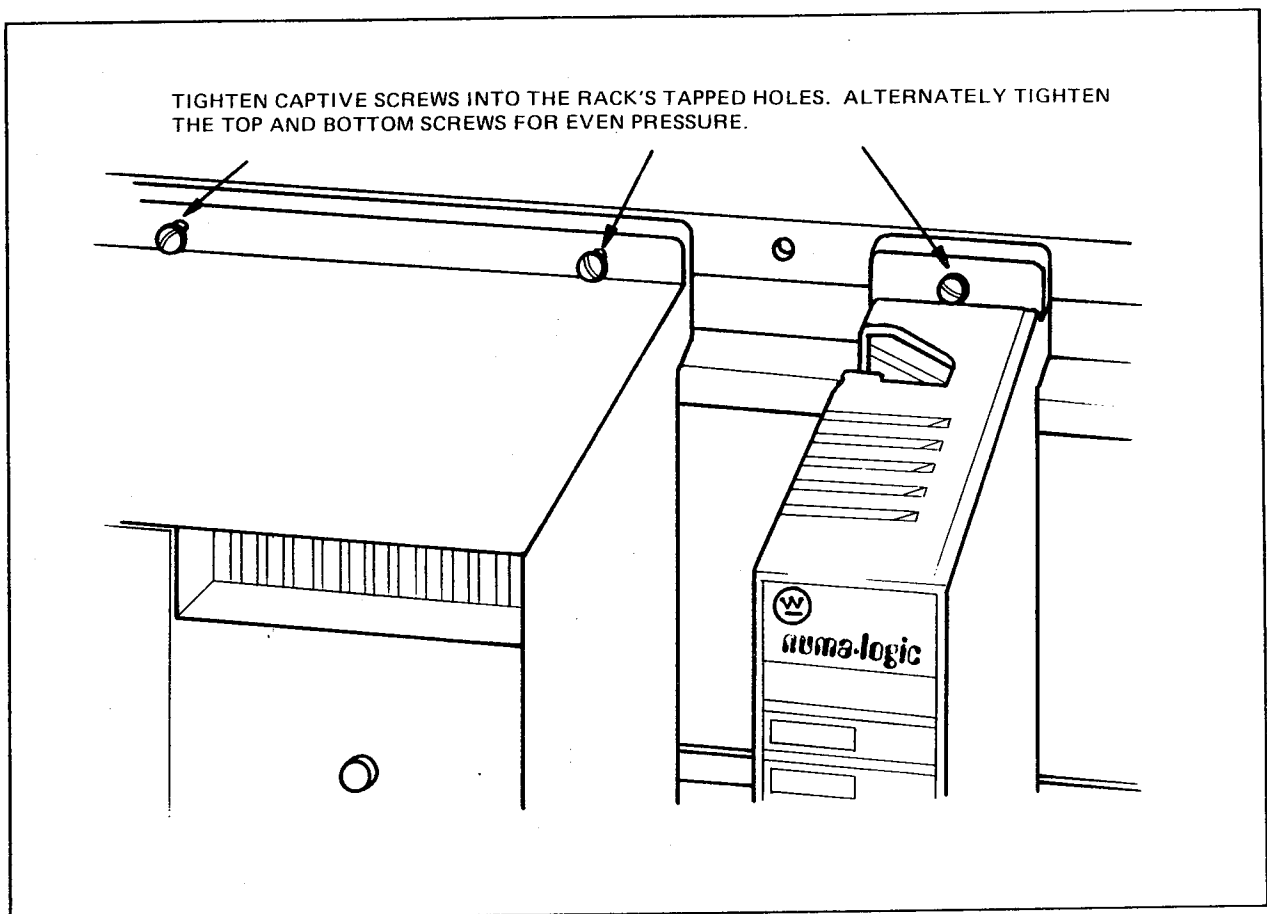

Figure 3-21. Controller/Module Mounting
3. Use a screwdriver to tighten the captive screws on the controller to the threaded holes on the rack. (See Figure 3-21.)
3. Use a screwdriver to tighten the captive screws on the module to the threaded holes on the rack. (See Figure 3-21.)